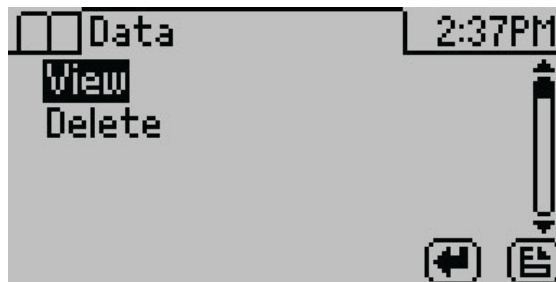

Figure 7 Data tab
1. Press **MENU** to navigate to the Data tab (Figure 7).